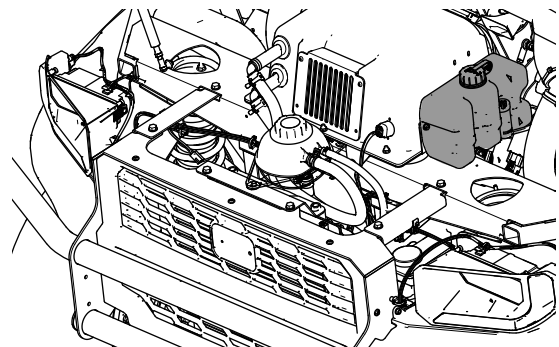

Figure 19
3. If the machine has the glass windshield and wiper kit installed, install the washer bottle onto the side of the heater box assembly as shown in Figure 19.